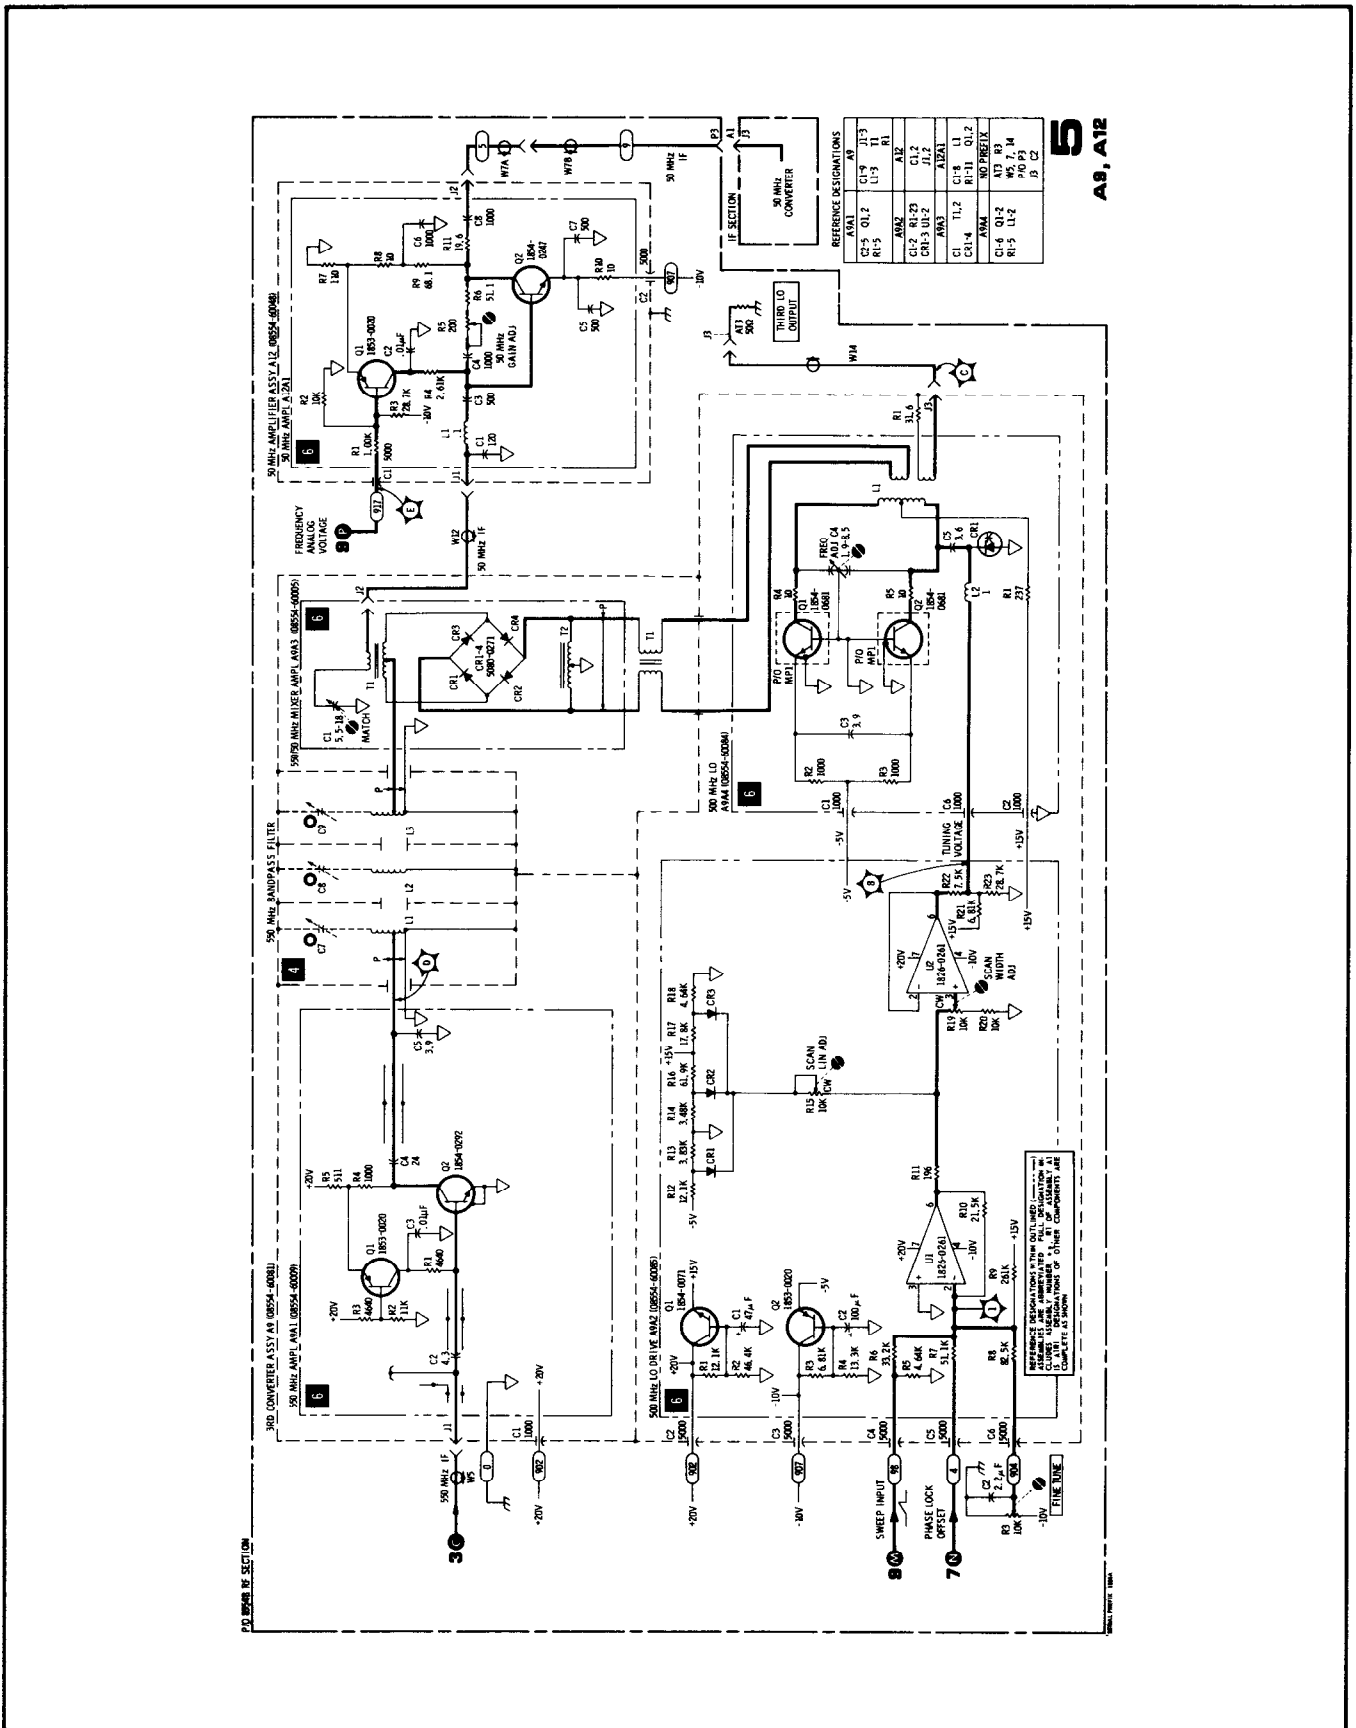

Figure 8-26. Third Converter A9 and A12 Schematic Diagram (CHANGE 2)
Page 8-27, Figure 8-26, SERVICE SHEET 5:
Replace Figure 8-26 with Figure 8-26 (Change 2).
Page 8-27, Figure 8-26:
- Change A9A2U1 and A9A2U2 HP Part Numbers to 1826-0261 as indicated in Figure 8-26 (CHANGE 2) of this Manual Changes.